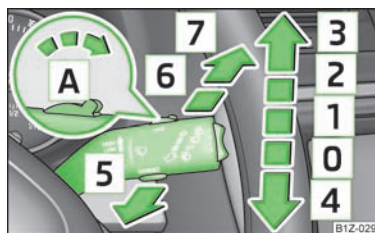

Fig. 35
- If the slower [2] » Fig. 35 or the faster [3] wiper setting is switched on and the vehicle speed decreases to below 4 km/h, the lower wiper step is switched on automatically. At a speed increase of more than 8 km/h the previous wiper setting is established again.
- If you only wish to wipe the windscreen **briefly**, push the lever into the spring-tensioned position [4] » Fig. 35. If the lever is held in the lower position for more than 1 second, the wiper wipes faster.
If the windscreen wiper is in position **2** » Fig. 35 or **3** the rear window is wiped every 30 or 10 seconds if the vehicle's speed exceeds 5 km/h.
The headlights are being cleaned after the windscreen has been sprayed for the first time and fifth time, the low beam or main beam are switched on and the windscreen wiper lever was held in the position **5** » Fig. 35 for about 1 second.
- Then press the windscreen wiper lever into position  » Fig. 35 within 20 seconds – the wiper arms move into the service position.